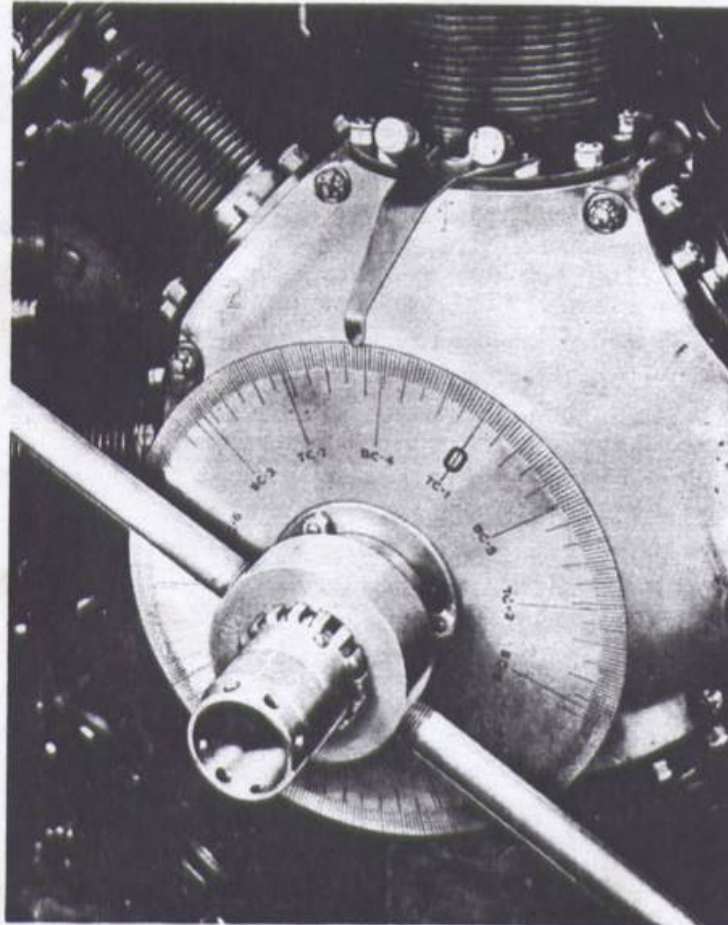

Fig. 23. Method of Installing Timing Plate and Pointer
(1) Rotate the lock the engine mounting plate of the assembly stand so that the engine is in a normal or flight position.
(2) Install timing disc FA-16-1 and pointer No. FA-16-L to the engine as shown in figure 23. The timing disc must be installed with the omitted spline over the spline blocking screw which is installed on the top and front of the crankshaft when crankshaft is in "Top Center No. 1 Cylinder" position. The pointer is attached to the front cylinder base studs of No. 1 cylinder.